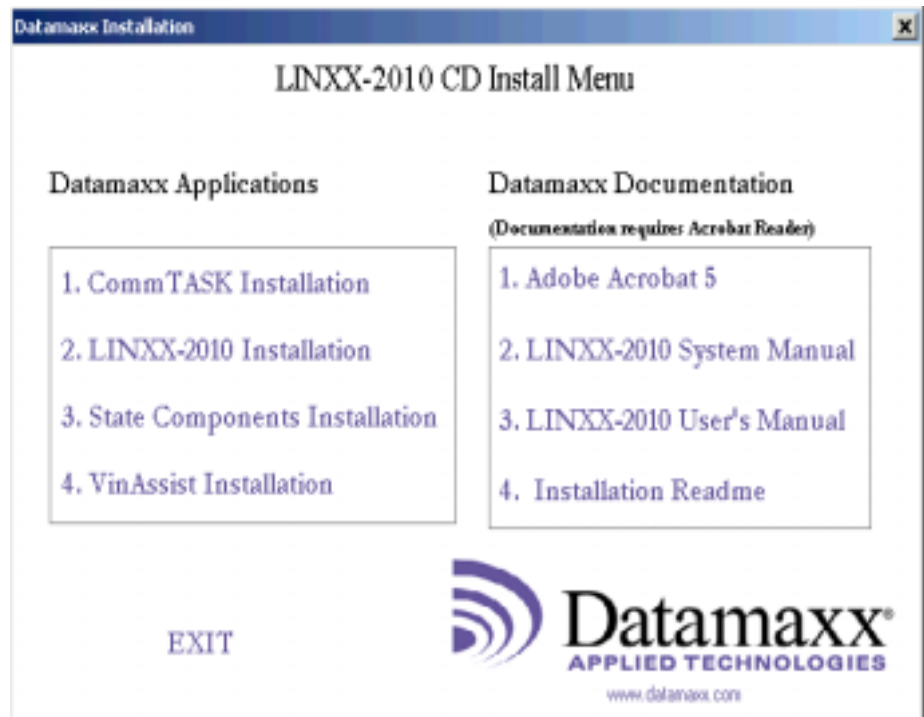

Figure 1.63 Datamaxx Installation Menu
8. Once the LINXX-2010 System Manual is successfully installed, the *Datamaxx Installation Menu* is automatically displayed (see Figure 1.63). The user may select the document to begin installation by clicking an item in the **Datamaxx Documentation** list.